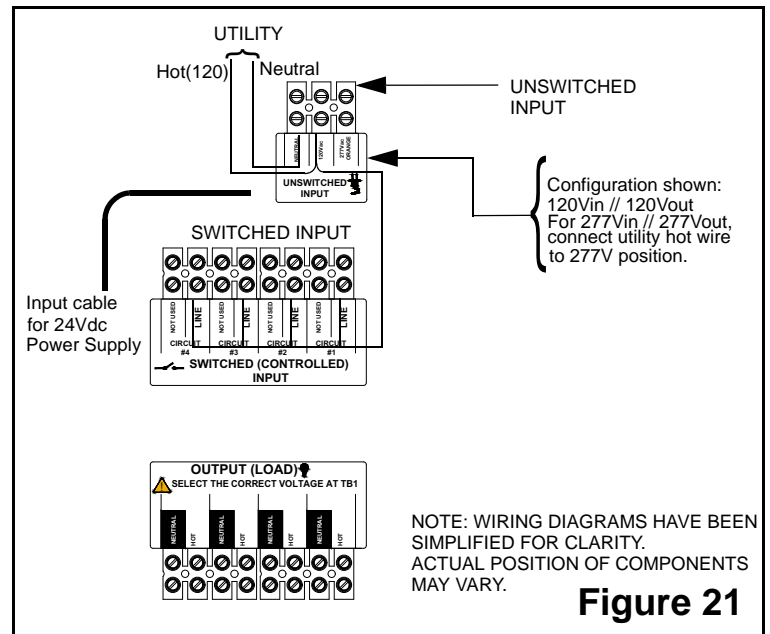

Figure 21
- Identify the input cable of the 24 VDC Power Supply marked "Connect wire to unswitched position(120V or 277V)" (see Figure 21).